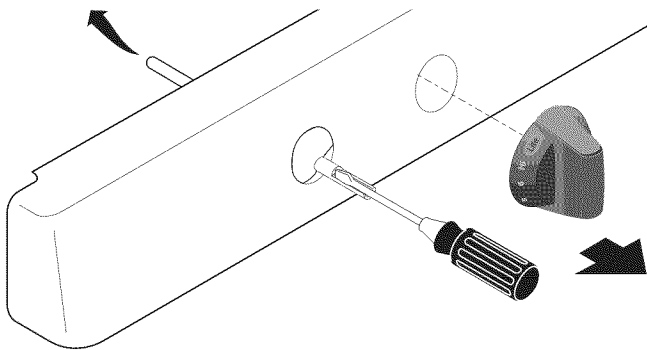

Fig. 36
5. Insert a thin-bladed screwdriver into the hollow valve stem and engage the slotted screw inside (See Fig. 36). Flame size can be increased or decreased with the turn of the screw. Turn counterclockwise to increase flame size. Turn clockwise to decrease flame size.